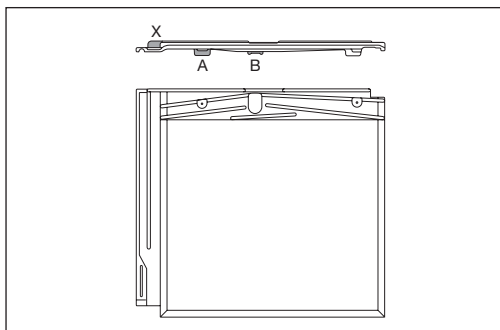

Fig 28 – Removal of nibs
- On new slate, batten nibs at positions 'A' and 'B' should be carefully removed (Fig 28).
- In addition, top upstand 'X' should be slightly reduced in height to allow easy insertion of new slate (Fig 28).